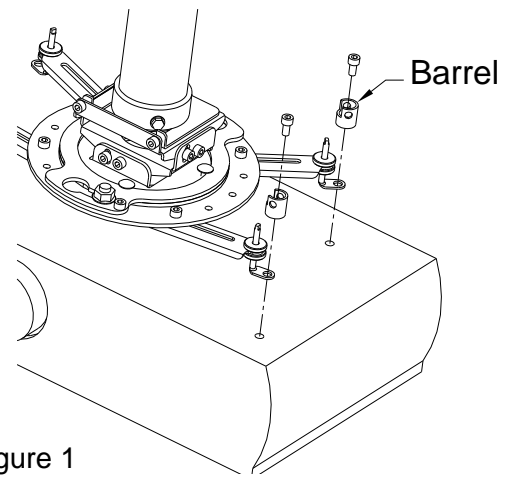

Figure 1
2. Attach barrels to top of projector feet. See Figure 1.